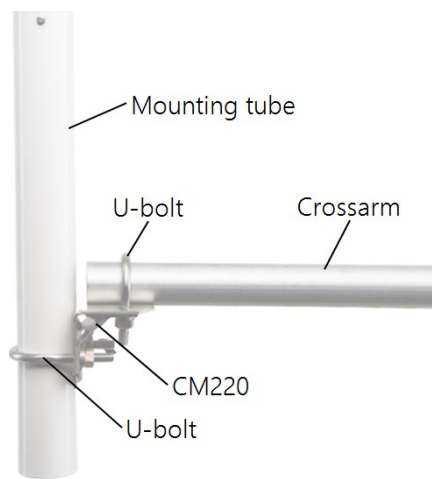

FIGURE 7-1. ClimaVUE50, MetSENS, or WindSonic Mounting Pipe Kit and crossarm
1. If using a crossarm, attach the mounting tube to the crossarm by using the CM220 Right Angle Mounting Kit, then mount the crossarm to the tripod or tower (FIGURE 7-1 (p. 15)).